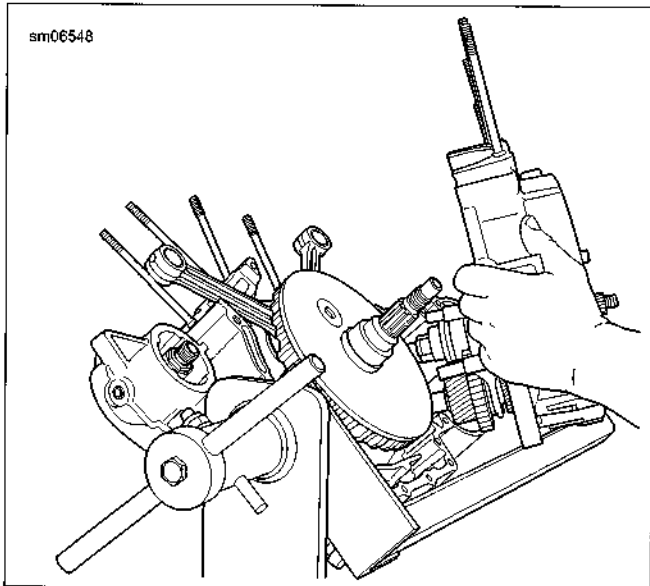

Figure 5-29. Separating Crankcase Halves
14. Tap crankcase gently with rawhide mallet to loosen and separate halves. See Figure 5-29. Remove left crankcase assembly with transmission.